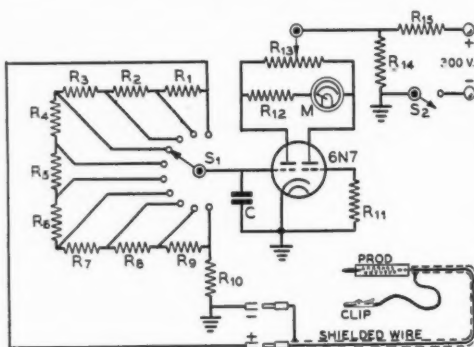

Figure 2.
Figure 2. Diagrammatic sketch of three types of doublet antennas. (A) Two separate sections with a mercury reservoir for each. (B) Wire sections for the central portions and variable mercury columns at either end. (C) Single, continuous column of mercury using a single reservoir. The feeders are shown as being capacity coupled in this drawing, but contact may be made by wires through the tubing.
Figure 2 shows three possible types of construction for a doublet. In one, each leg of the antenna has its own reservoir of mercury. In another there is only one reservoir thereby making the column continuous. The latter type can be fed by a delta match, the feeders being connected either directly to the mercury or to metal collars on the tubing thereby coupling by capacity. Contacts through the glass to the mercury are commonly made of platinum or its alloys since these metals will not amalgamate.